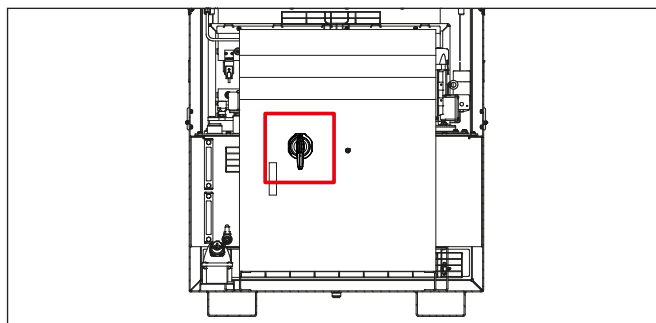

Figure 50: Main switch layout
4. Turn ON the main switch in the electric cabinet. Refer to the Figure 50 to see the location of the main switch of the system.